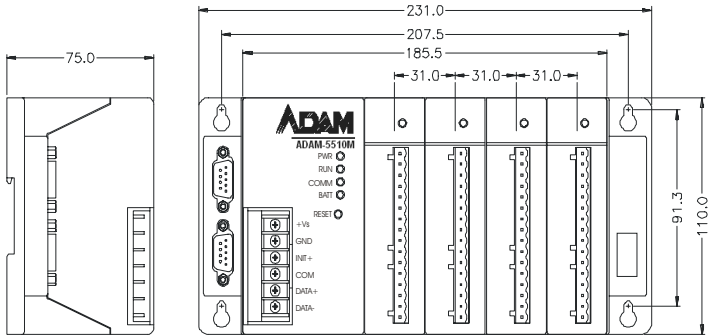

Figure 1-2: ADAM-5510M System IO and Module Dimension
- RS-232/485 Mode Selectable (Select by jumper setting, refer to Figure 1-2)